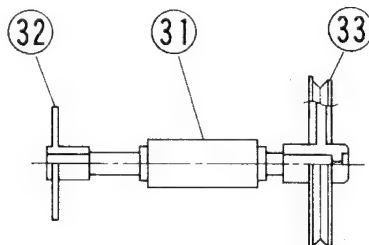

Figure 16
2. Worm gear (31) Assy
As described in Fig. 16 pressing insert the Shifter (32) and pulley to the long and short bars of Worm Gear (31) respectively. When the Shifter (32) is assembled, make sure that the left end of the bar is on the same level as the face of the shorter boss of shifter. When the Pulley (33) is assembled, press the pulley as long as it goes.
2. ウォームギヤー(31) assy
シフター(32)及びプーリー(33)をそれぞれウォームギヤー(31)の長軸、短軸に取り付ける。シフター(32)の短軸の面とウォームギヤーの長軸の面を合わせる。又、プーリー(33)はウォームギヤーの短軸がはいるところまで押し込む。(図16)